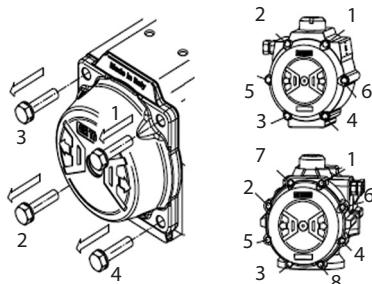

Fig. 9: Installation of the covers
- Insert the cover screws (Pos. 13) and tighten according to the sequence (see Fig. 9.).